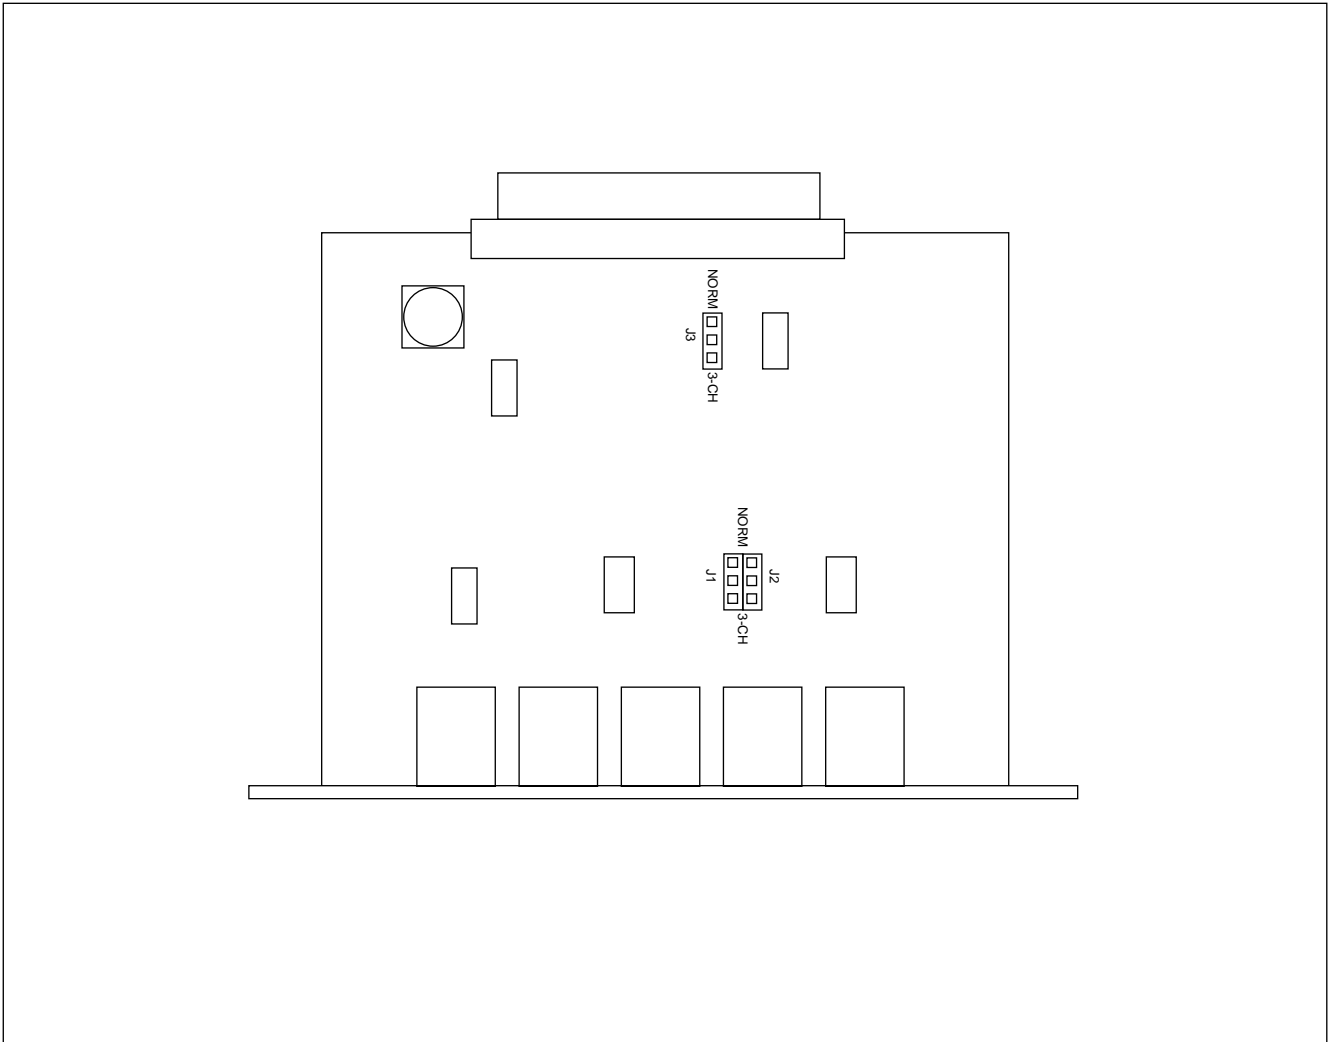
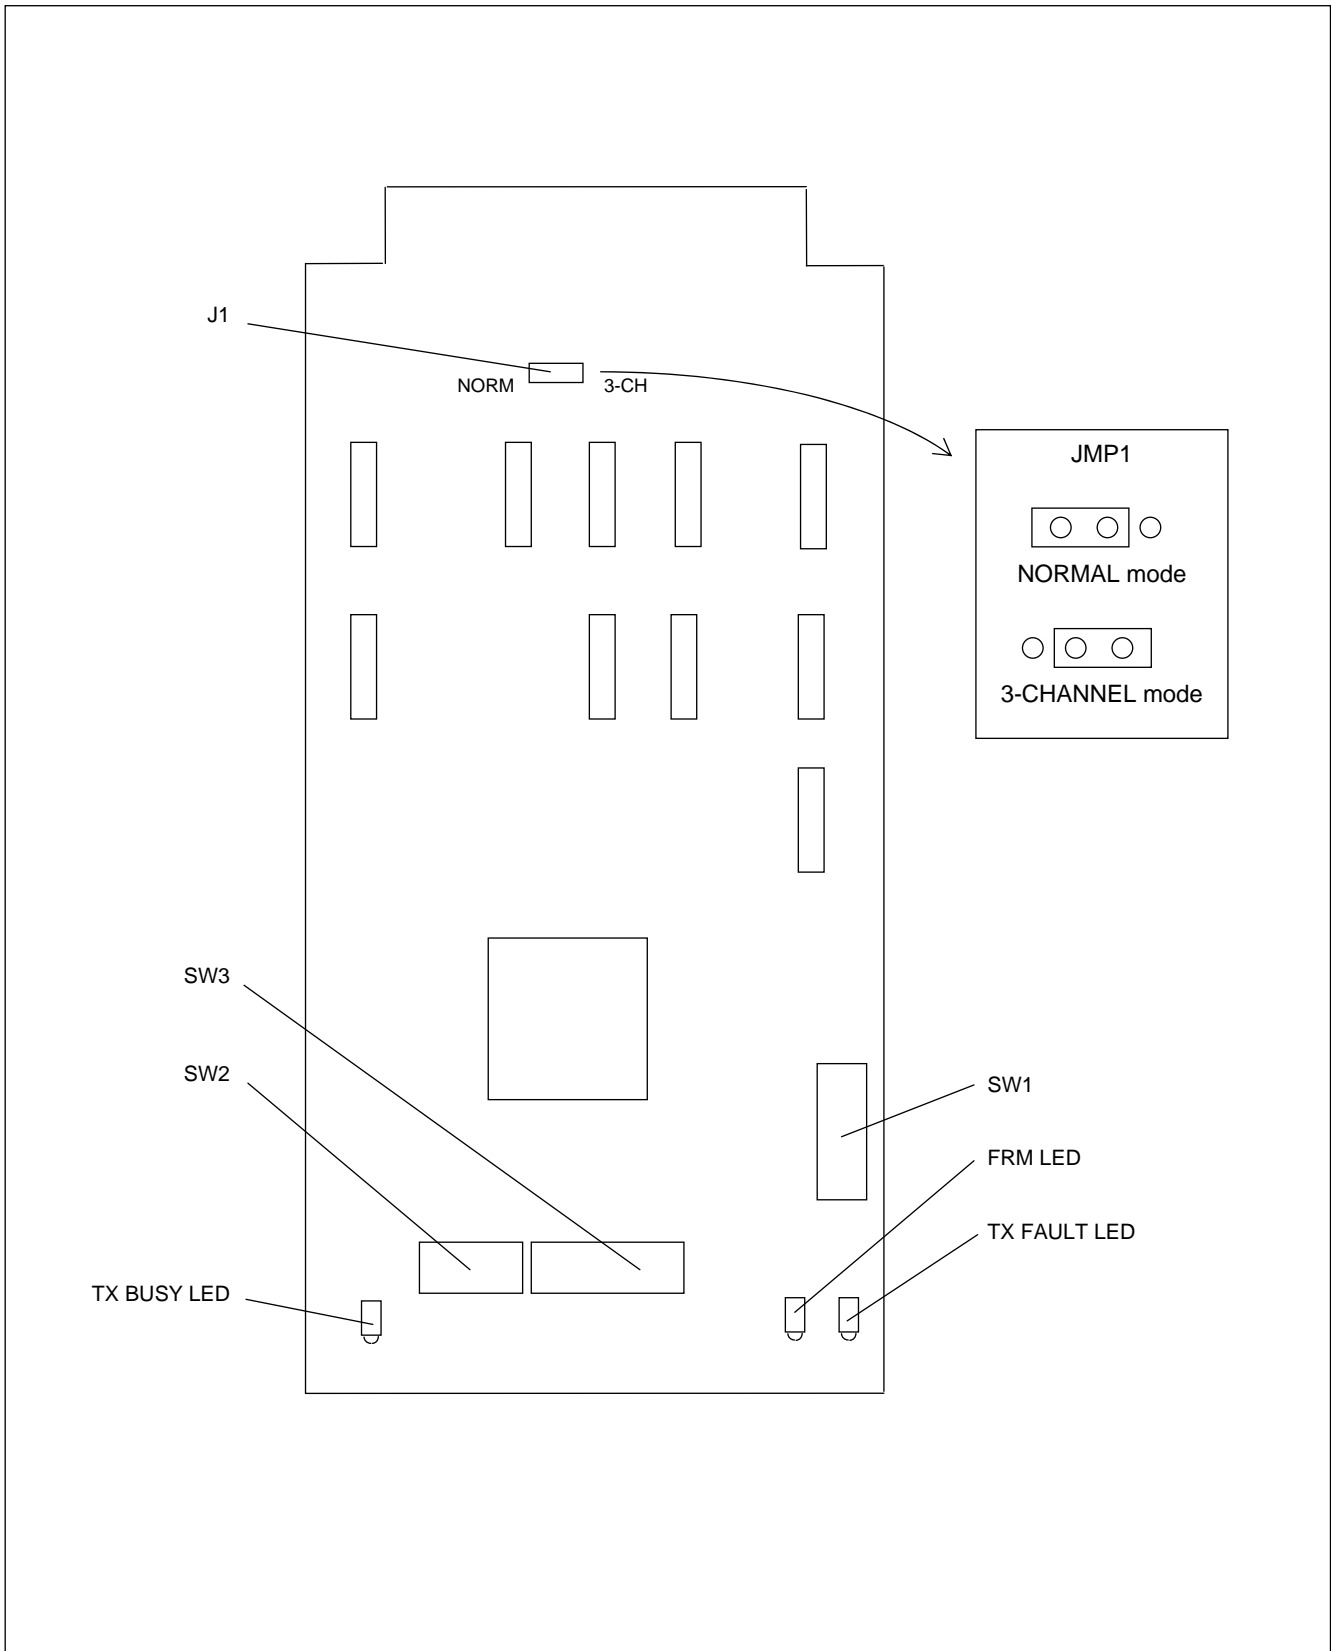

Figure 3. MA-404A Module Adapter jumper settings
Figure 4. Controls and indicators, RFL DS-961DE Synchronous Data Module
Jumpers on the MA-404A are used to select normal or three channel mode of operation. For NORMAL mode (two or five channel), set jumpers J1, J2 and J3 to the NORMAL position. For THREE CHANNEL mode, set jumpers J1, J2 and J3 to the THREE-CHANNEL position. Figure 3 illustrates these jumper settings.
5. Refer to Figure 4 and Table 2 for the location and function of DIP switches on the DS-961DE.
7. Set the channel configuration jumpers. To use this module in five channel mode at any data rate, or in two channel mode at 19.2 kbps, set jumper J1 to the NORMAL position as shown in Table 1 and Figure 4. Set the jumpers on the module adapter to the NORMAL position as shown in Figure 3.
- c. Set the jumpers on the module adapter to the THREE CHANNEL position as shown in Table 1 and Figure 3.